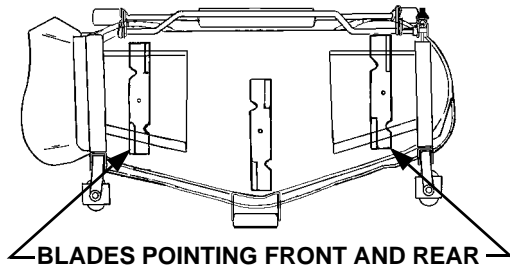

Figure 21
2. Position the mower blades so the ends of each blade point to the front and the rear of the tractor (See Figure 21).
5. Carefully rotate the outer cutting blades so that the ends of the right blade point to the front and rear of the tractor (Refer to Figure 21).